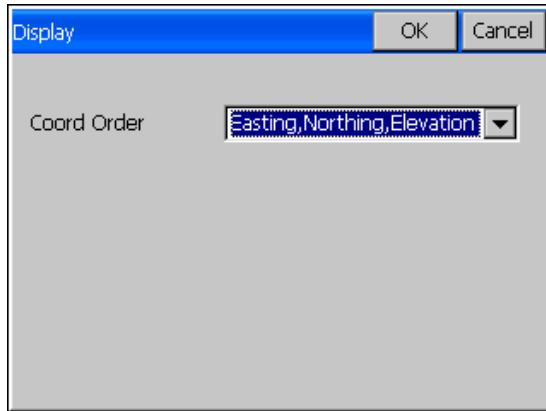

Figure 6-3. Display
- **Settings** – opens the *Display* screen (Figure 6-3 on page 6-4).
On the **Display** screen (Figure 6-3) select the display parameters to customize the software interface, then press **OK** to save the settings and return to the **Points** screen.